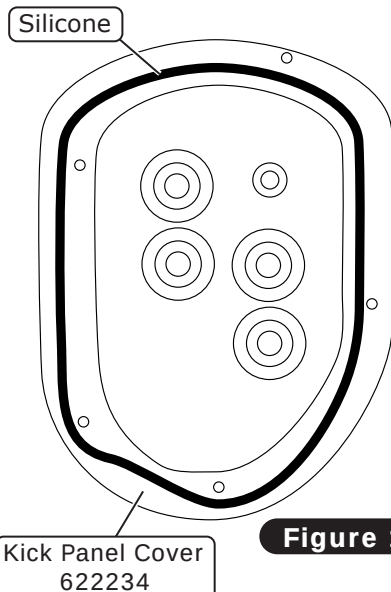

Figure 1
1. Apply a bead of silicone around the mating surface of the kick panel cover (See Figure 1, below).
3. Install the kick panel, routing the hoses and wiring through the opening. Secure the panel using (4) #8 x 1 1/4" countersunk screws with washers (See Photo 1, below). **NOTE: Use only the mounting holes shown in Photo 1, below, at this time.**